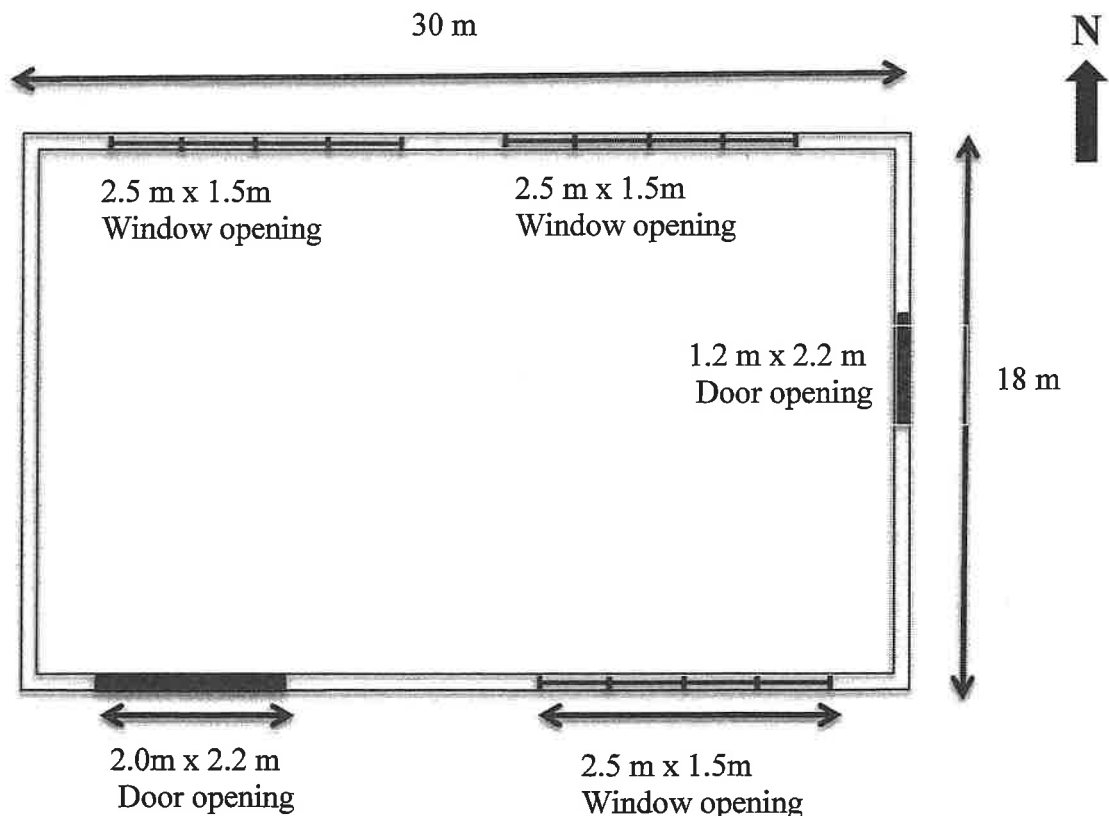

Figure Q3: Building Layout
- d) A single-storey office building with plan dimensions of $30\text{ m} \times 18\text{ m}$ and a height of 4 m is to be air-conditioned. The building is constructed of brick masonry, with a flat roof without insulation and steel-framed glass windows. It includes three windows (each measuring $2.5\text{ m} \times 1.5\text{ m}$) and two doors (measuring $2.0\text{ m} \times 2.2\text{ m}$ and $1.2\text{ m} \times 2.2\text{ m}$) as shown in Figure Q3. The office accommodates 25 occupants and contains 10 computers, 3 printers, and 20 lighting fixtures. Each computer emits 25 W of heat, each printer 10 W , and each light fixture 10 W . The outside temperature is 90°F . Assume that $1\text{ W} = 3.41\text{ BTU/h}$ and $1\text{ m} = 3.28\text{ ft}$. Estimate the total cooling load of the building and determine the number of $12,000\text{ BTU/h}$ split-type air conditioners required. Clearly state any assumptions made. Use Data Sheet 7 in answering the question.